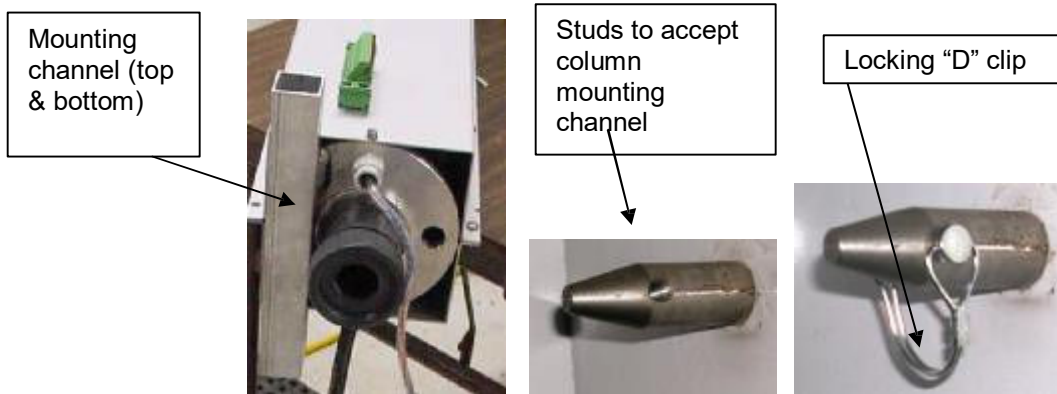

Figure 6
- Loosen the upper and lower mounting hardware ("D" clips) that secures the column (see Figure 6). Do not loosen bolts on the back of the cabinet. Locking pins are provided with your replacement column. The top and bottom mounting channel easily posts slide over the permanent studs to the cabinet back plate, then secure with top and bottom "D" locking clips. (See Figure 6)